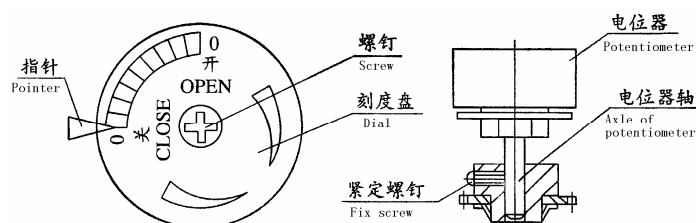

图 7 开度机构 Fig.7 position indicator
1. 开度刻度盘调整，见图 7。当行程控制机构调整完成后，把阀门关闭到“全关”位目视检查刻度盘上的“0 关”刻度是否与指针对正，如没有对正，松开刻度盘上的螺钉，转动刻度盘，使指针与“0 关”刻度对正，然后旋紧刻度盘上的螺钉。
Adjustment of dial, see Fig.7
9. 通常输出轴顺时针转动为关阀，逆时针为开阀（从上朝下看），若要求相反的话，图 5 中扇形板的“开”、“关”位置；图 6 中“开”、“关”调节螺钉；图 7 中刻度盘的“开”、“关”位置这些地方与本说明书不同，以实物为准，说明书不再更改。
In general, clockwise rotation of output shaft of actuator makes valve close, and counter-clockwise rotation of the shaft makes valve open(with view downward). If reverse rotation id needed, "open" and "close" positions of sector plate in Fig.5; adjust screws for "open" and "close" in Fig.6; "open" and "close" positions of dial in Fig.7 will not be consistent with this manual. The indicating marks are shown on the specific product and this manual will not be modified further.